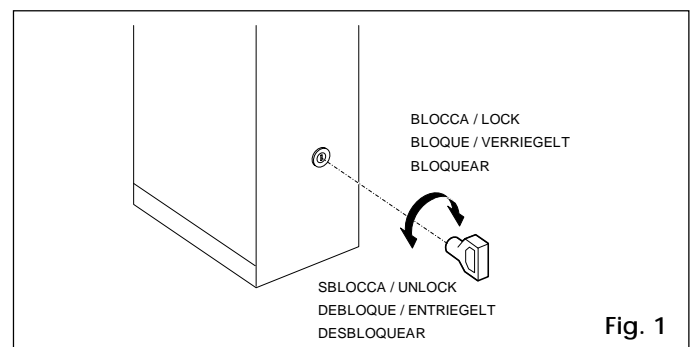
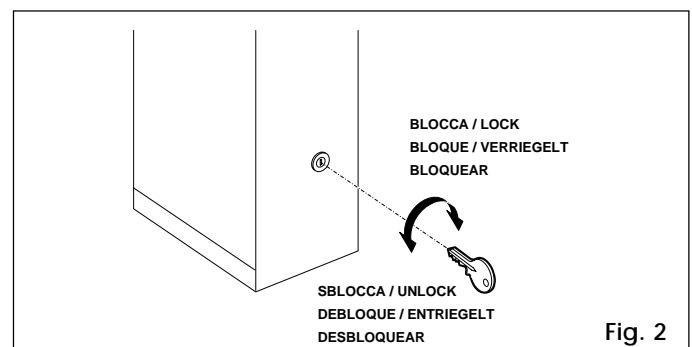

Fig. 1
Fig. 2
- Insert the standard key (fig. 1) or the customized key (fig. 2) in the lock and turn anticlockwise by one revolution.